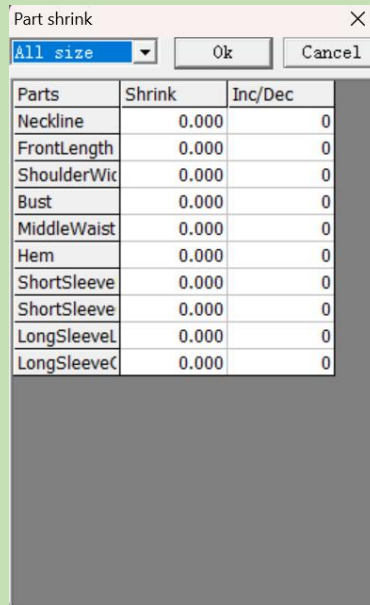

Figure3-6
6. Shrinkage: The shrinkage rate of parts can be set. **Shrink** (Figure 3-6)